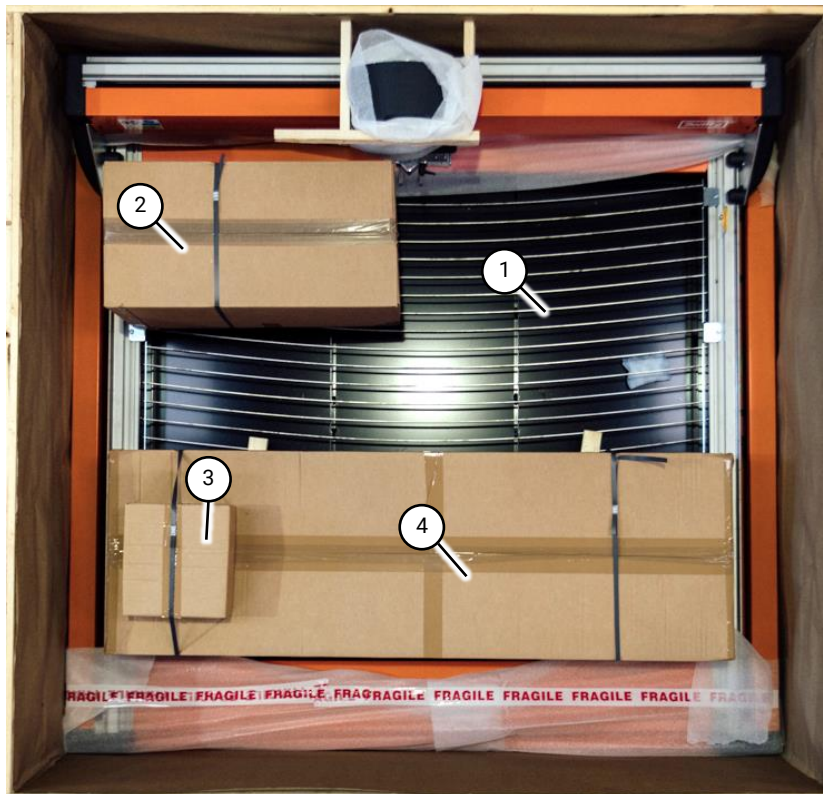

Fig 5 Crate contents
1.1 Swifty 1250 (44) Machine (Fig 5 (1))
1.2 Control Box (Fig 5 (2))
1.3 Accessories (Fig 5 (3))
1.4 Stand Box (Fig 5 (4))